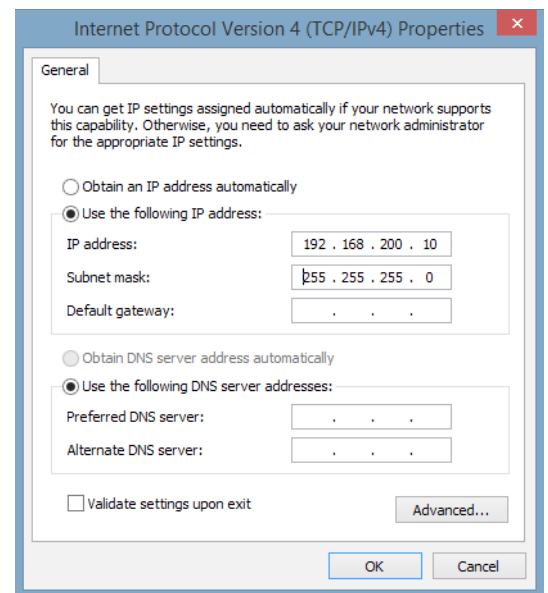

Fig. 2-30, Internet Protocol (TCP/IP) Properties Screen, Windows 10
7. The Internet Protocol (TCP/IP) Properties dialog box will open (Fig. 2-30). Select “Use the following IP address”. Enter the values as shown (i.e. IP address 192.168.100.2 and Subnet mask 255.255.255.0). Record the existing IP address and Subnet mask in order to later return the computer to its original state.